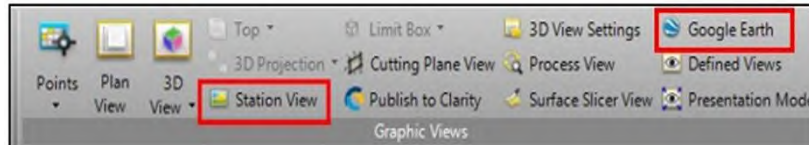

Figure 14: Graphic Views toolbar within the “View” tab on the ribbon.
- If any panorama photographs were taken while in the field, they can be displayed under the "Station View" button in the "Graphic Views" toolbar within the "View" tab on the ribbon (Figure 14). While it is presumed that further capabilities exist with the panoramic photographs, they are unknown at this time.
- Users can view their data in Google Earth while post-processing it (Figure 14).